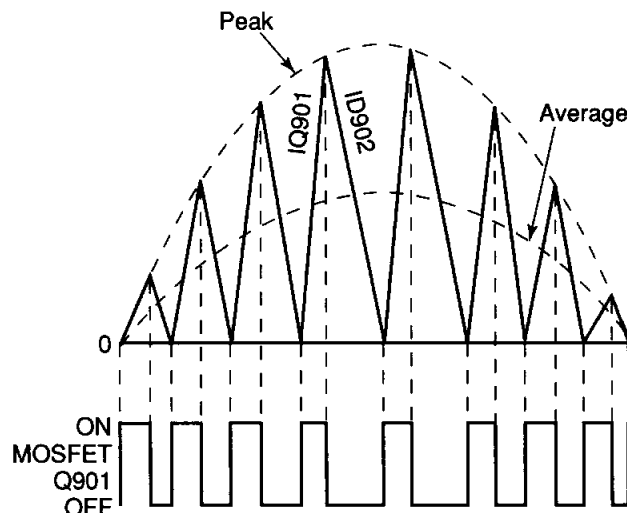
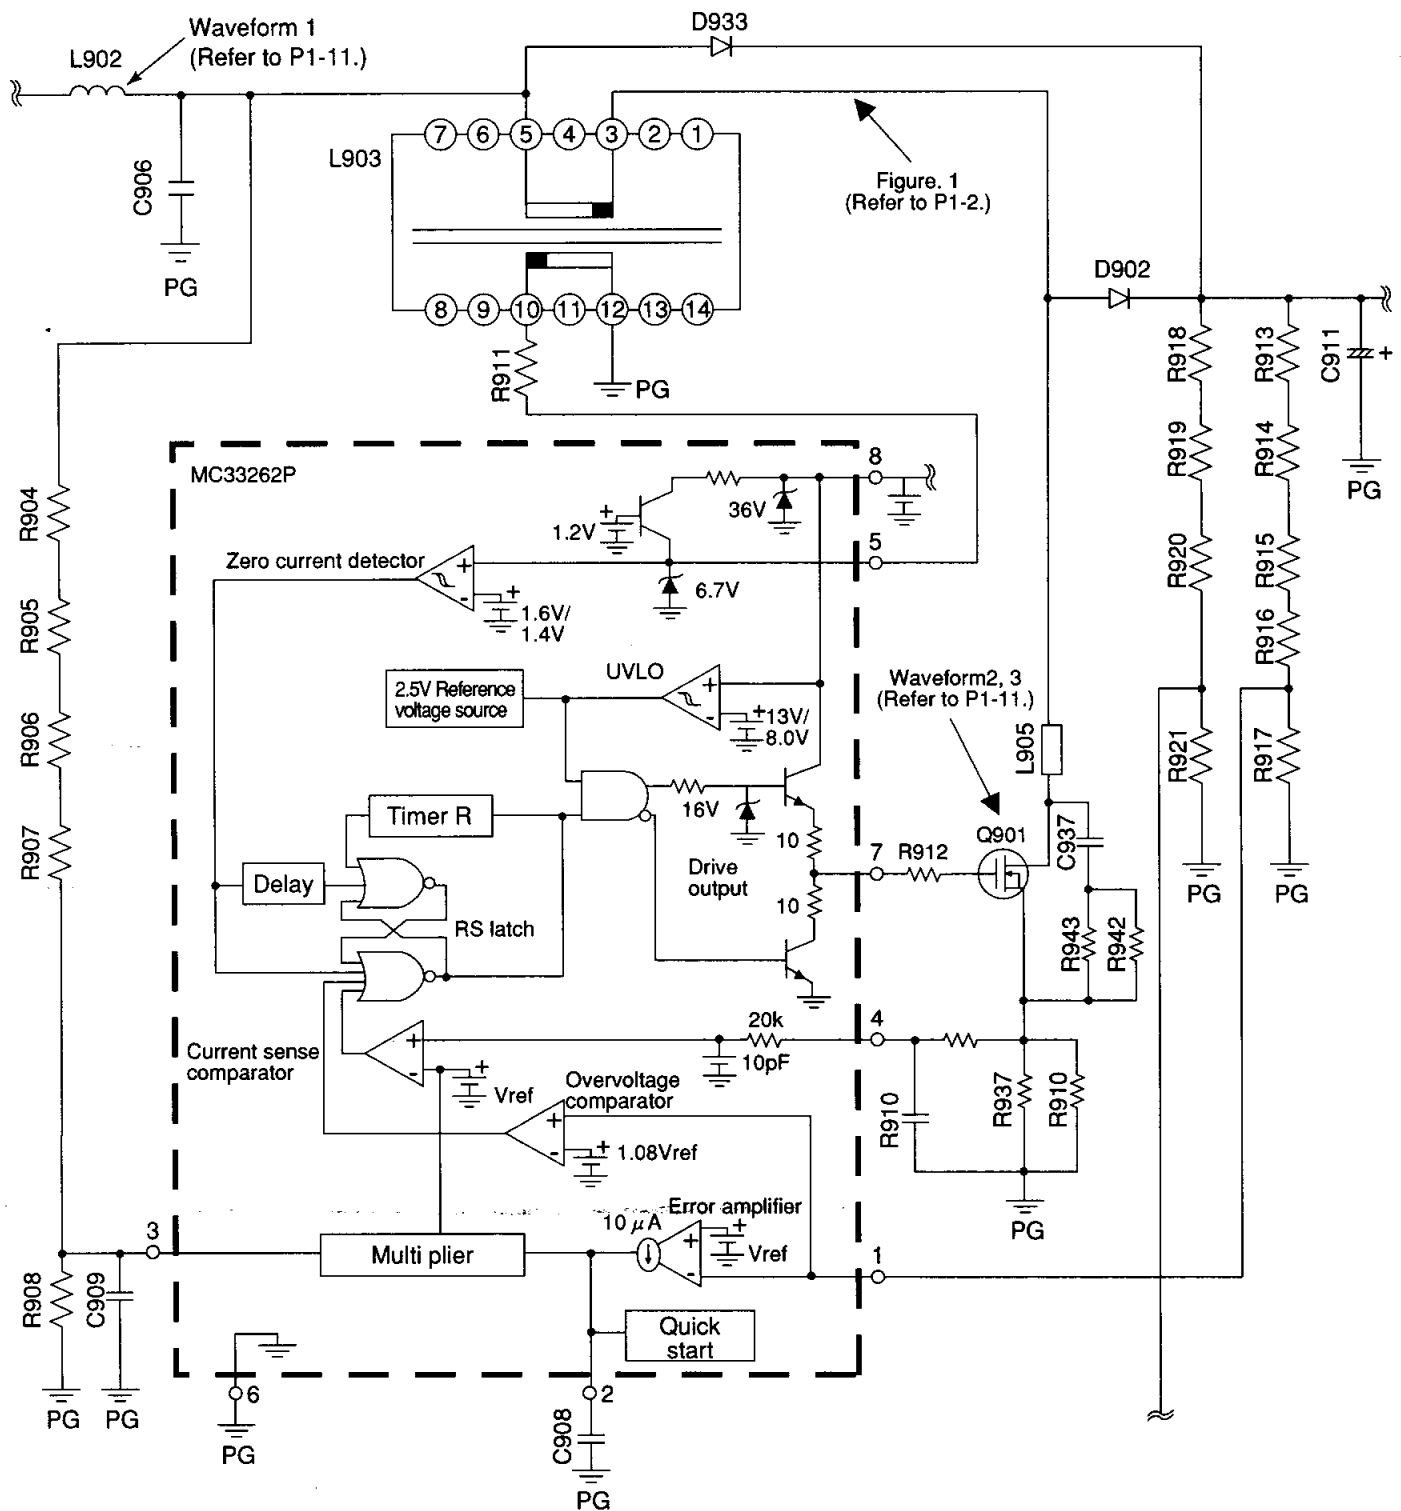

Figure 1. L903 coil current
Figure 2. High harmonic waveform circuit
- (1) The pulsating waveform rectified in the full wave mode by D901 is switched throughout the full cycle by the frequency of several tens kHz or more. Through this, the input current waveform becomes an average of the switching currents of the partial cycles, thus becoming the sine waveform in the macro. (See Fig.1)
- (2) For the AC input voltage, the AC input current of the sine wave type in the same phase flows to achieve the power circuit of improved power factor and reduced higher harmonic wave component.
- (3) L903 is the choke coil, Q901 is MOS FET, D902 is the rectifying diode, C911 is the block capacitor, and IC901 is the power factor improved controller. The power factor improved controller uses MC33262P of Motorola. (See Fig. 2)
- (4) After the sub power starts, P-SUS signal becomes HI when +5V voltage is supplied to the MPU. Then, Q902 is turned ON, the voltage of approx. +18V is supplied to Pin 8 (VCC terminal) of IC901 through D932 from Pin 2 of T902, and the following operation is started.
- (5) The pulsating voltage waveform rectified in the full wave mode by D901 is divided with R904, R905, R906, R907 and R908 (100VAC : 1.1Vp-p and 240VAC: 2.9Vp-p), and is input to Pin 3 of IC901 (Multiplier input). Moreover, the output (+side of C911: 400VDC) of the higher harmonic circuit is divided with R913, R914, R915, R916 and R917 (2.5VDC), and is input to Pin 1 of IC901 (error amplifier input).
- (6) The output of the error amplifier and the divided waveform of the pulsating voltage input to Pin 3 of IC901 sets the threshold voltage of the current sense comparator to control the Q901 flowing current from zero to the peak line of the AC input voltage in the sine wave pattern.
- (7) When Q901 is turned ON, the drain current of Q901 flows to R910 and R937 to drop the voltage, and the voltage generated by the voltage drop is input to Pin 4 (current sense input) of IC901. When the voltage reaches the threshold voltage of the current sense comparator, Q901 is turned OFF.
- (8) When Q901 is turned OFF, the accumulated energy of L903 starts to be supplied to the load through D902.
- (9) As the accumulated energy of L903 drops, the auxiliary coil voltage (Pin 10 of L903) also drops. When it reaches the threshold voltage of *zero current detector, Q901 will be turned ON again.
- (10) The above operation is repeated to continue the oscillating operation. Thus, the DC voltage (L903, Q901, D902 and C911 compose the voltage rise circuit.) is gained on the output, and the AC input current of the sine wave in the same phase with the AC input voltage is gained on the input side.